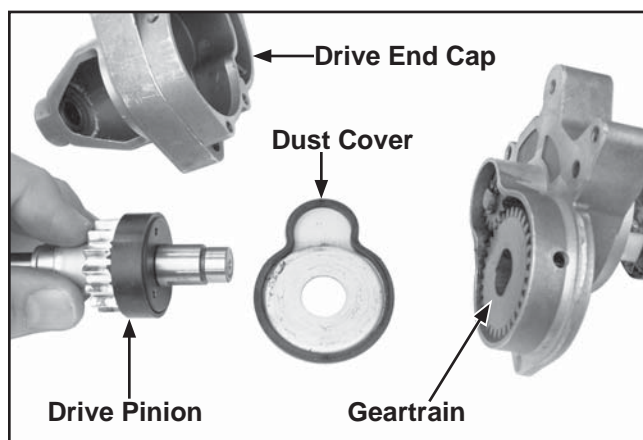

Figure 8-13. Disassembled Drive Components.
4. Remove the drive pinion and dust cover, exposing the geartrain. See Figure 8-13.